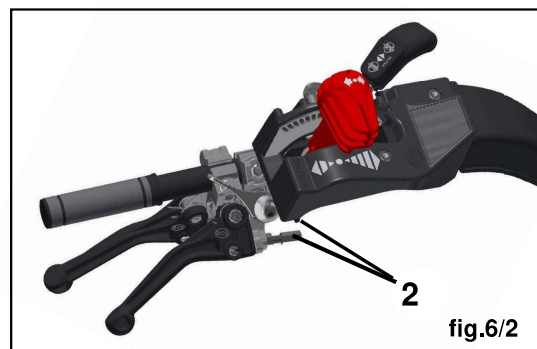

fig.6/2
- 2 - Brakes cable adjustment (fig.6/1, 6/2)
- 3 - Throttle cable adjustment (fig.6/3)
- 4 - Forward - reverse knob cable adjustment (fig.6/4)
- 5 - Engine-stop cable adjustment (fig.6/3)
- 6 - Engine RPM adjustment (fig.6/3) (see specific manual of the engine)